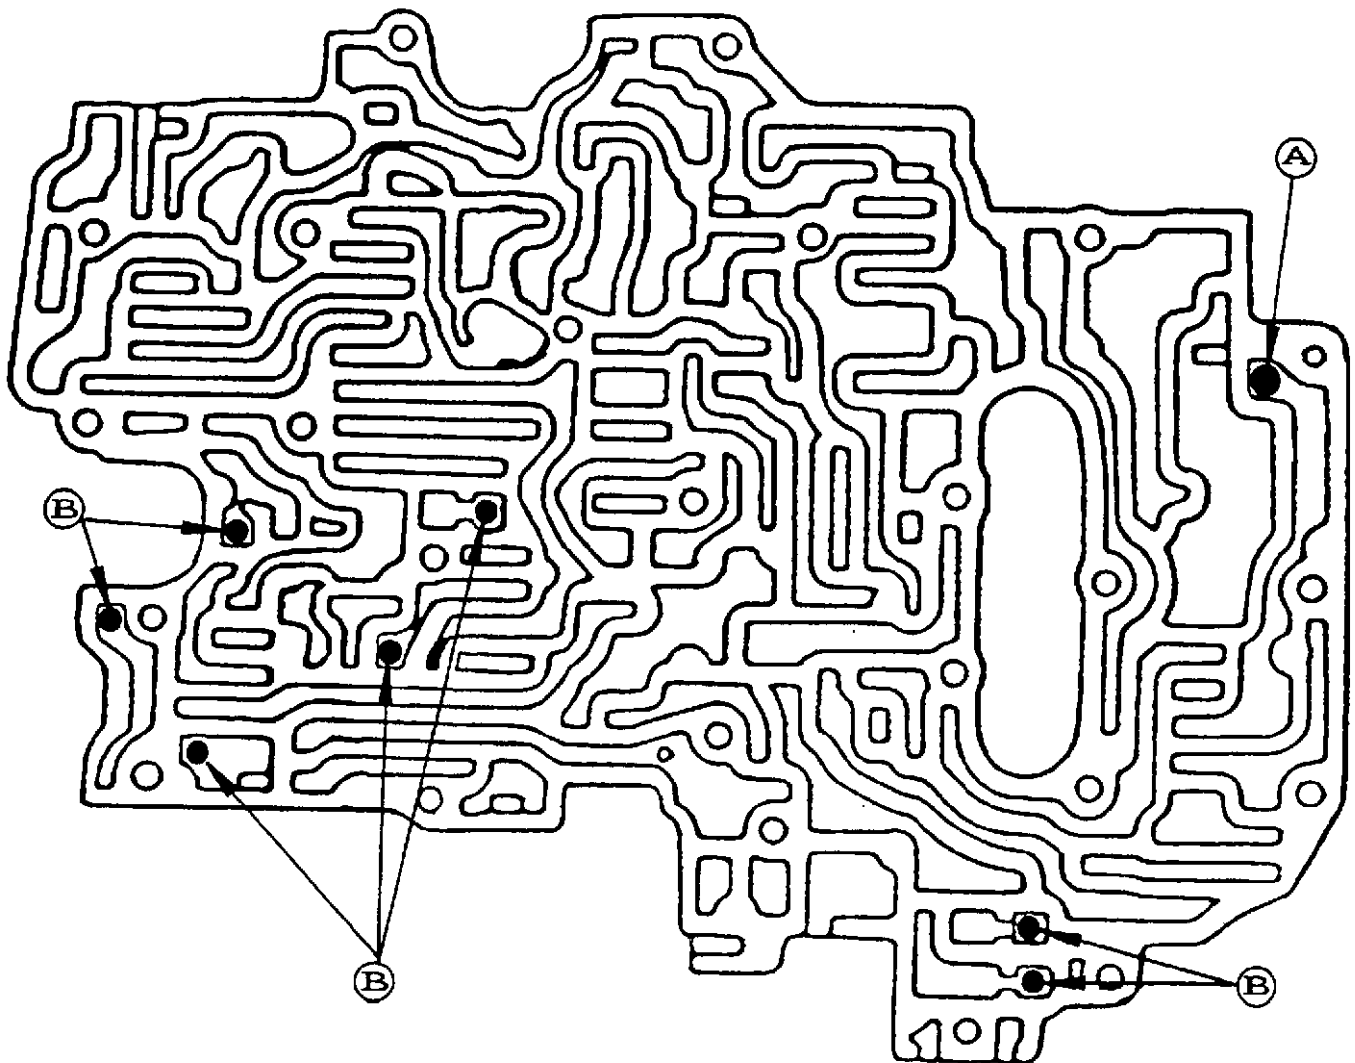

Figure 2
1990-1991 This valve body requires a total of eight (8) checkballs placed in the locations shown in Figure 2. Notice that the checkballs are different sizes, one .250" diameter rubber ball, and seven .218" diameter rubber balls (SEE FIGURE 2).